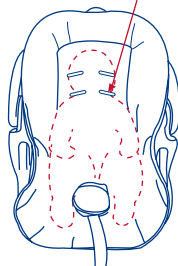

Fig. 30-1
**straps to be even with or just below your child's shoulders.** (Fig. 30-1) The harness straps are adjusted as follows: